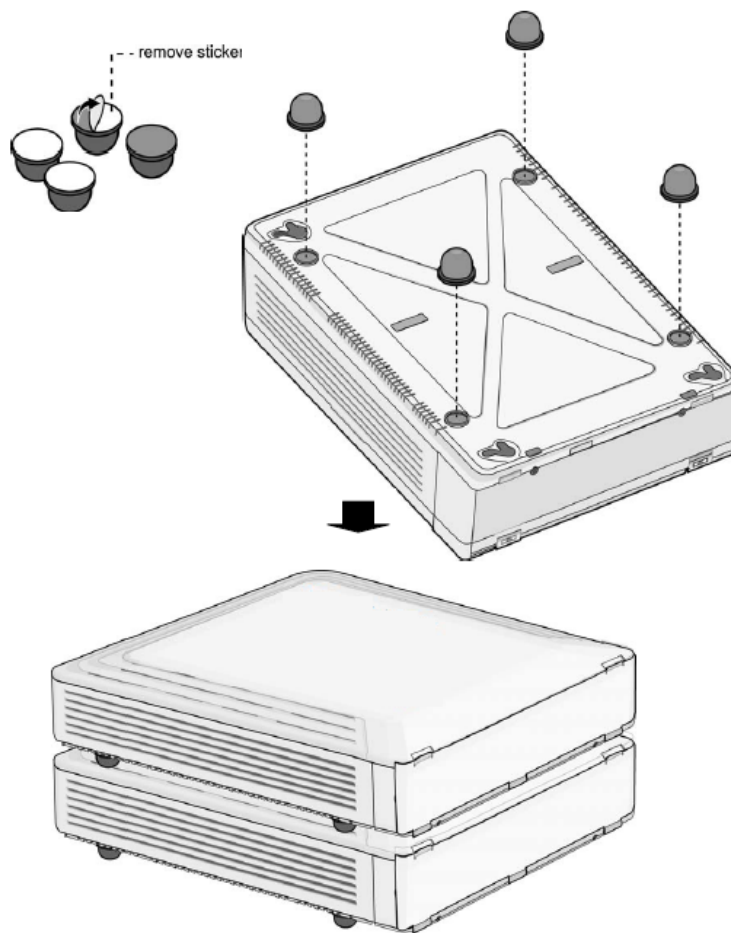

Figure 3-7 Desktop Mounting
1. To attach the rubber feet to the bottom of the SBX IP system as shown in Figure 3-7, first remove the protective sticker from the rubber feet.